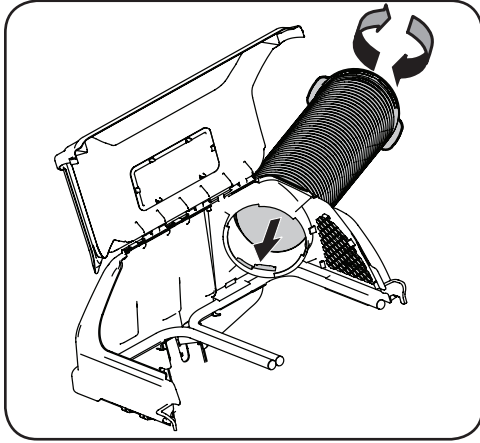

Figure 4-23
1. Thread the upper end of the chute tube securely into the upper chute support. There are two tabs on the lower inside part of the upper chute support to allow for secure threading. See Figure 4-23.